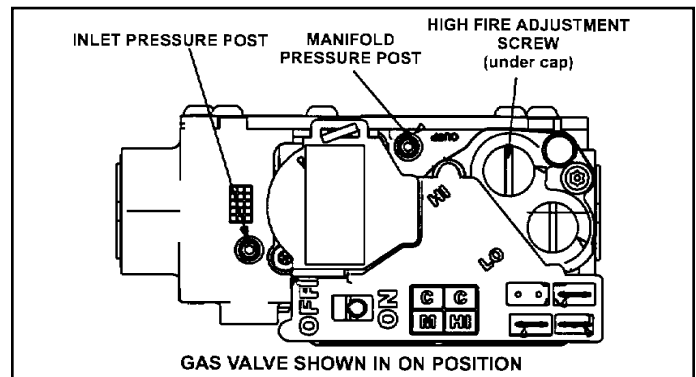

Figure 69.
6. Move gas valve switch to OFF. See Figure 69.
8. Move gas valve switch to ON. See Figure 69.
An inlet pressure post on the inlet side of the gas valve provides access to the supply pressure. See Figure 69. Back out the 3/32 Hex screw one turn, connect a piece of 5/16" tubing and connect to a manometer to measure supply pressure.
1. A manifold pressure post located on the gas valve provides access to the manifold pressure. See Figure 69. Back out the 3/32 Hex screw one turn, connect a piece of 5/16" tubing and connect to a manometer to measure supply pressure.